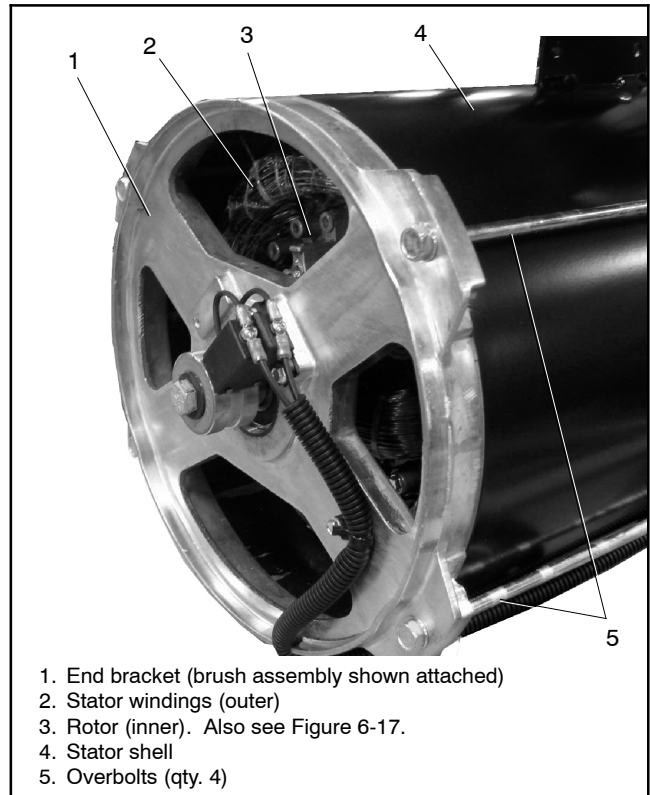

Figure 6-16 Alternator Assembly
26. Remove the alternator overbolts and centering washers. See Figure 6-16.
29. Carefully pull the stator from the rotor. See Figure 6-16.